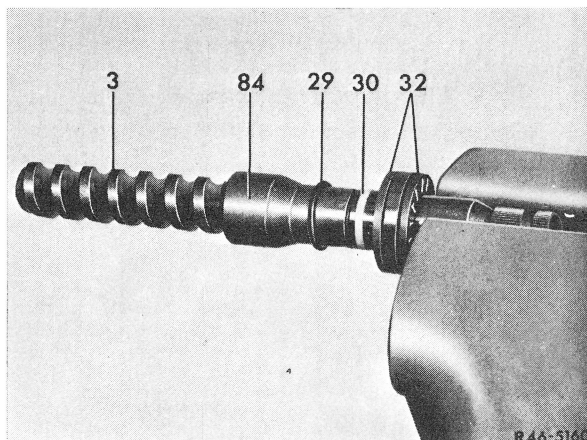

Fig. 1
- 1 Place lower axial cyl. roller cage (32) on steering worm (3) (Fig. 1).
- 2 Slide assembly sleeve (84) on steering worm (3) and mount O-ring (29) first, then sealing ring (30) (Fig. 1).